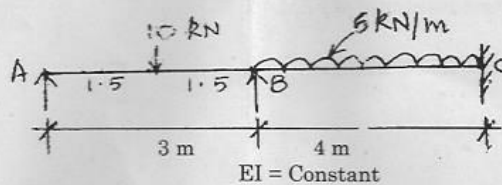

Fig. Q 12(a)
12. (a) Analyze the beam ABC shown in Fig. Q 12(a) by stiffness matrix method.